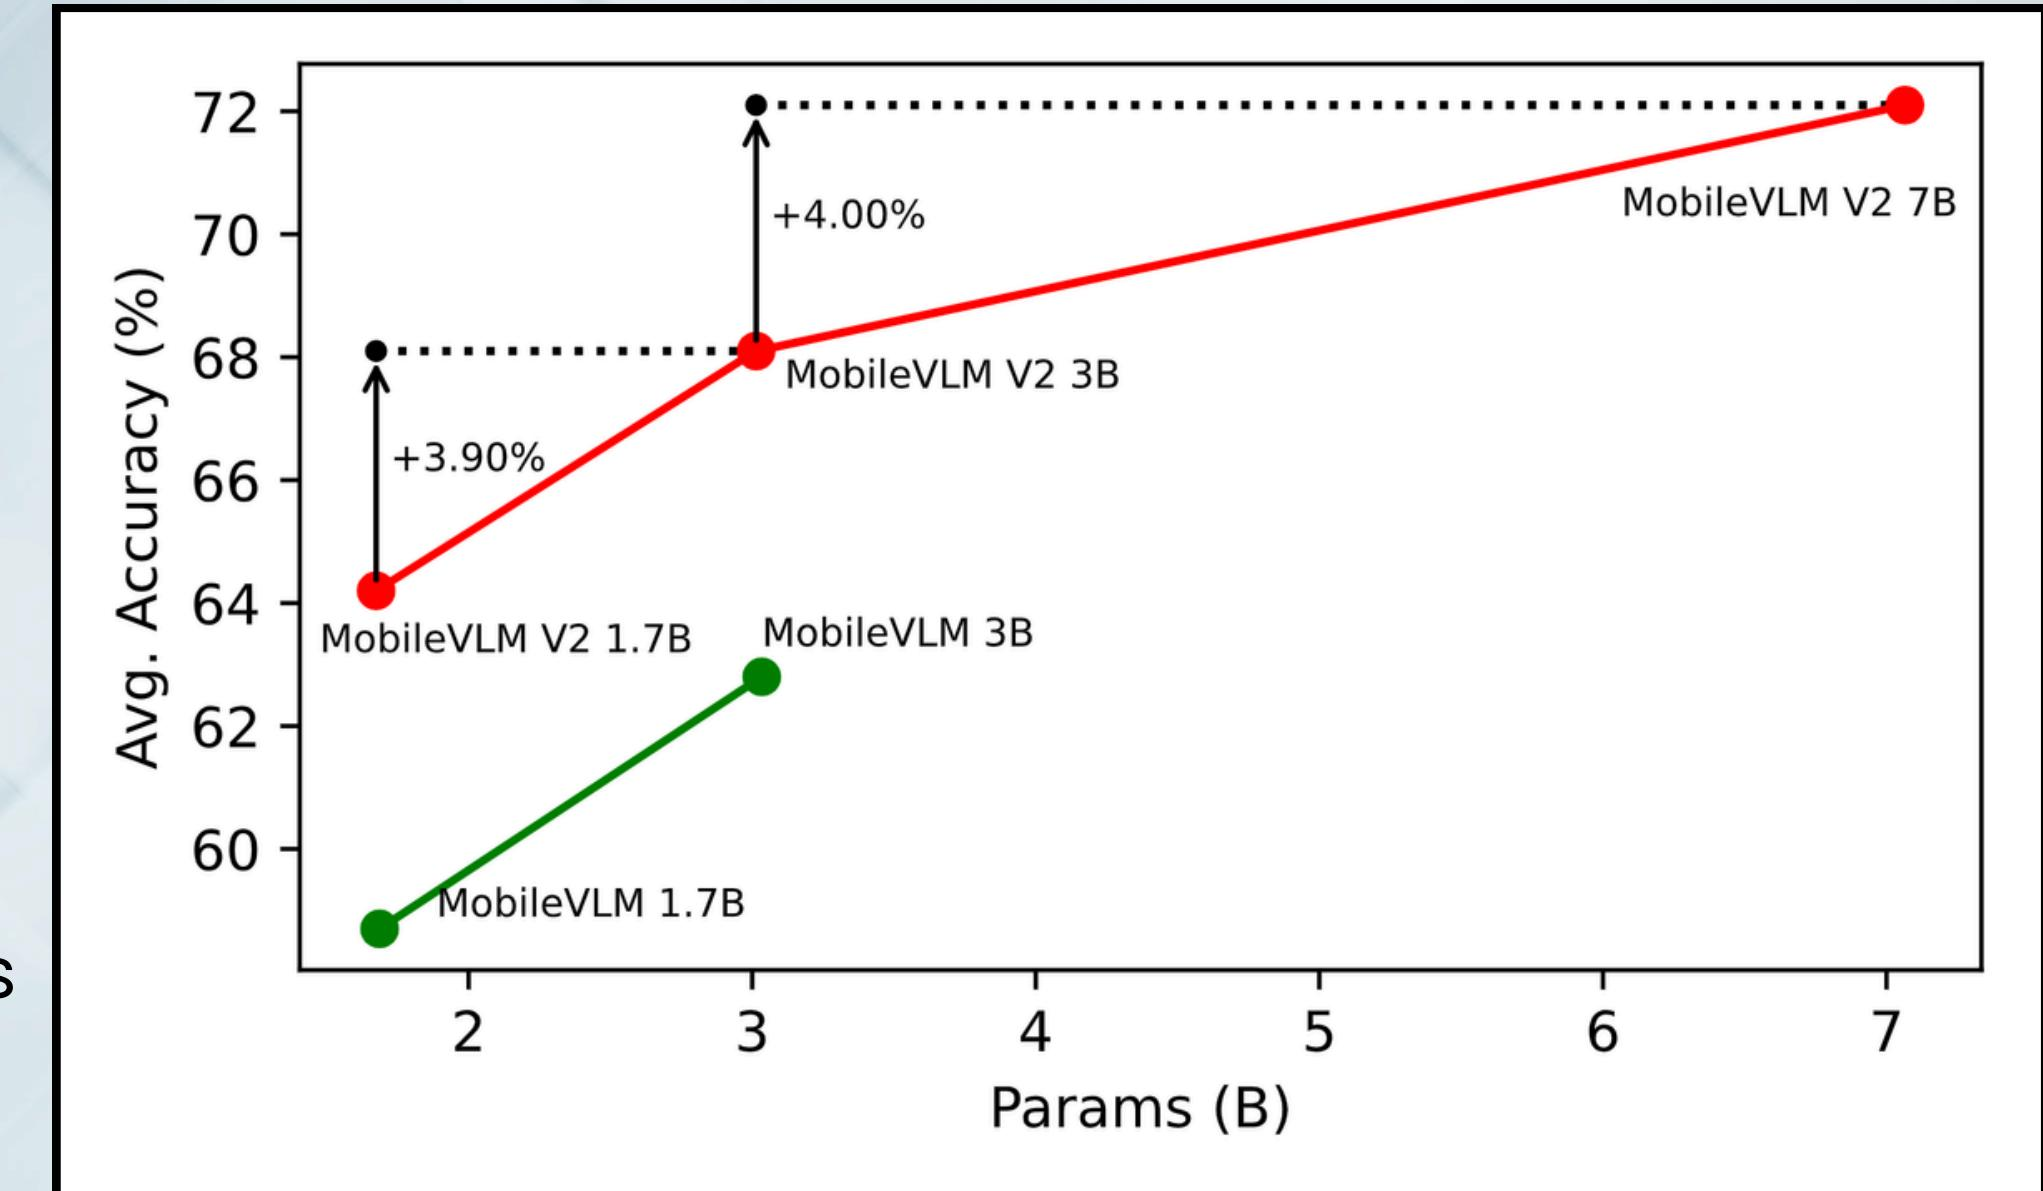

Fig. 2: MobileVLM V2 Scaling - Avg. Accuracy vs. Params (B).
- Better scalability (as demonstrated in Fig. 2)